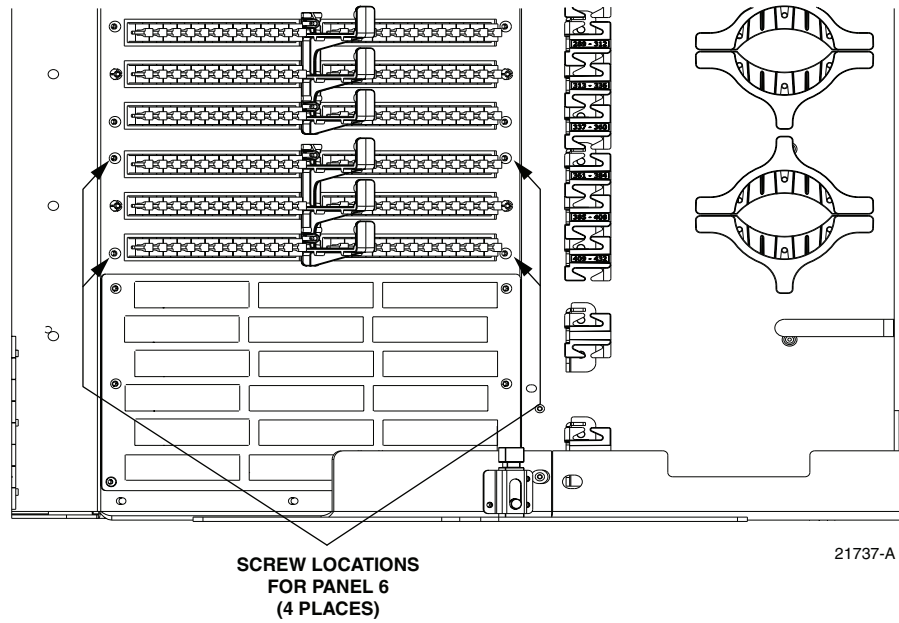

Figure 20. Secure Connector Panel to Swing Frame
10. Working from the front, use the four screws provided to secure the front of the connector panel to the swing frame as shown in Figure 20.